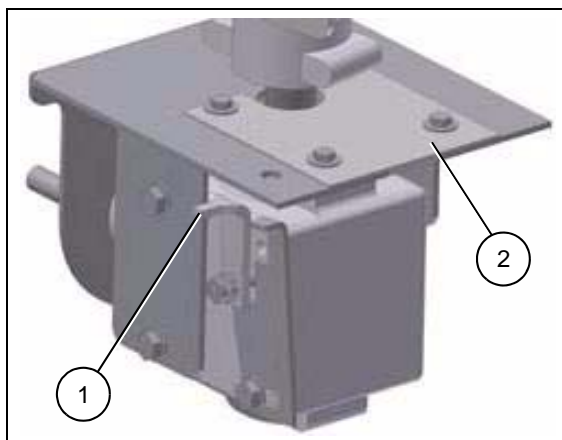

Figure 4N
Install gearbox into unload. Ensure that the shifter arm on the gearbox slides into the shifter slot on the unload. Secure gearbox with two (2) flange nuts. (See Figures 4N and 4O.)